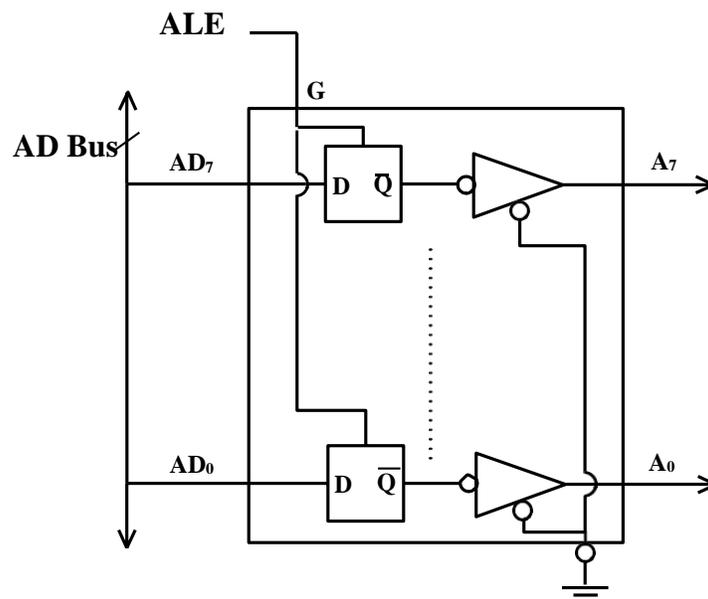

Fig.1.5a: Latching of Lower Order Address in External Latch
Fig.1.5a shows a schematic that uses a latch and the ALE signal to de multiplex the bus. The bus  $AD_7-AD_0$  is connected as the input to the latch 74LS373. The ALE signal is connected to the enable (G) pin of the latch, and the output control (OC) signal of the latch is grounded. When ALE goes high during the  $T_1$  state of a machine cycle, the latch is transparent and the output of the latch changes according to the input. The CPU is putting lower-order bits of address during this time. When the ALE goes LOW, the address bits get latched on the output and remain so until the next ALE signal.